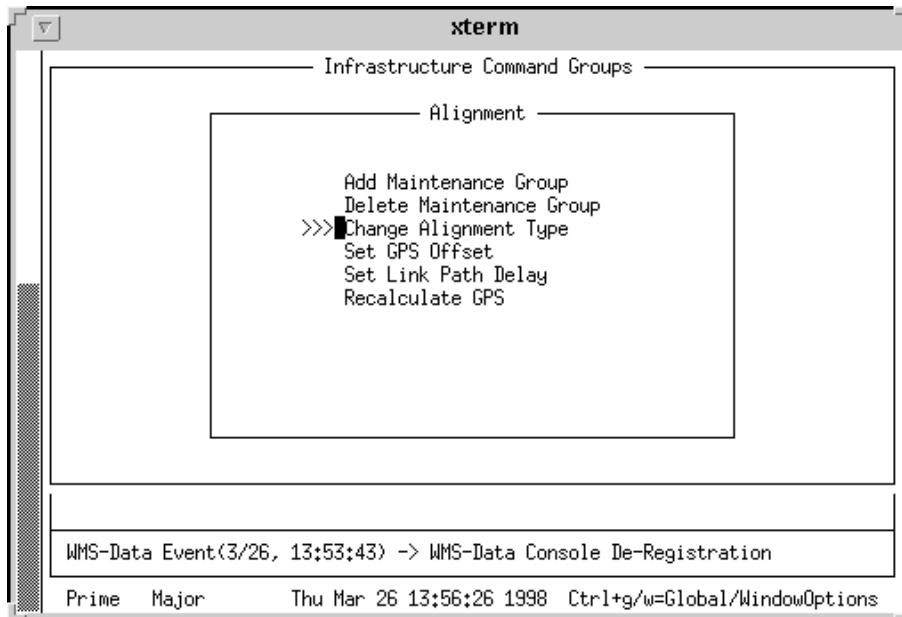

Figure 3-5: Alignment Menu—Change Alignment Type
1. From the Alignment menu, use the <tab> to position the cursor to the left of the listing Change Alignment Type and press: <Return> (see Figure 3-5).